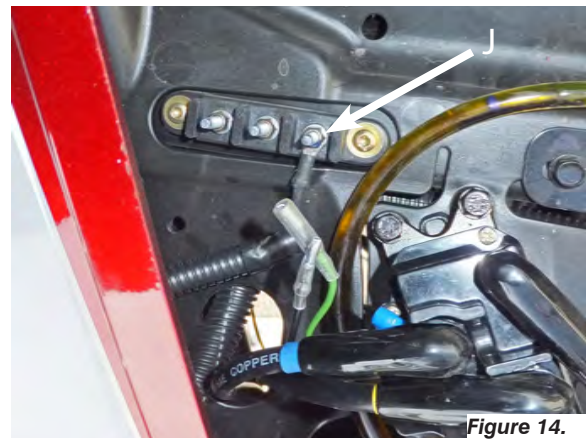

Figure 14.
16. Attach the ignition fed wire (RED) from your switch to the post labelled (J) in **Figure 14**, using the 22-18GA Spade Insulated Terminal included in the winch mount hardware kit.